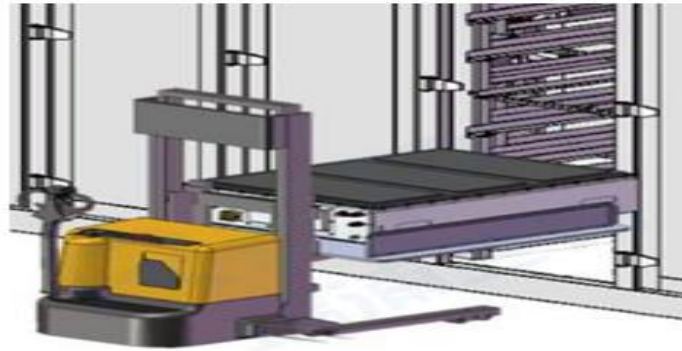

Figure 7-2 Schematic Diagram of Battery Module Installation
- 4) After the battery module is lifted to the designated position by the climbing forklift, slowly push the battery box into the corresponding position of the battery rack, as shown in Figure 7-2: